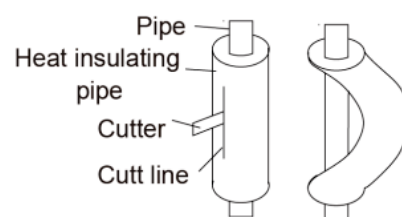

Fig. 10
- (2). Do not bend the pipes in an angle more than  $90^\circ$ .
- (3). When pipes are repeatedly bent or stretched, the material will harden, making it difficult to bend or stretch them any more. Do not bend or stretch the pipes more than three times.
- (4). When bending the pipe, do not bend it as is. The pipe will be collapsed. In this case, cut the heat insulating pipe with a sharp cutter as shown in Fig. 10, and bend it after exposing the pipe. After bending the pipe as you want, be sure to put the heat insulating pipe back on the pipe, and secure it with tape.